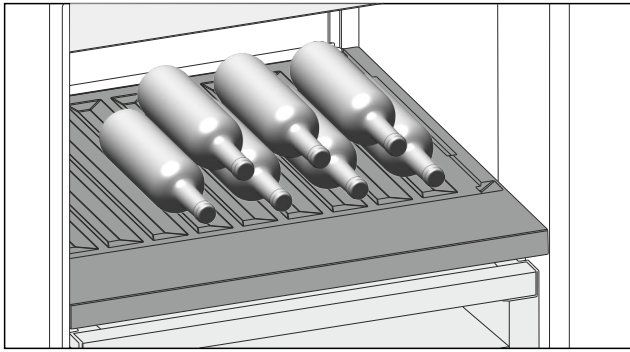

Fig. 175 Example illustration
- ▶ Place bottles in the back row with their bases against the back wall. (see Fig. 175)